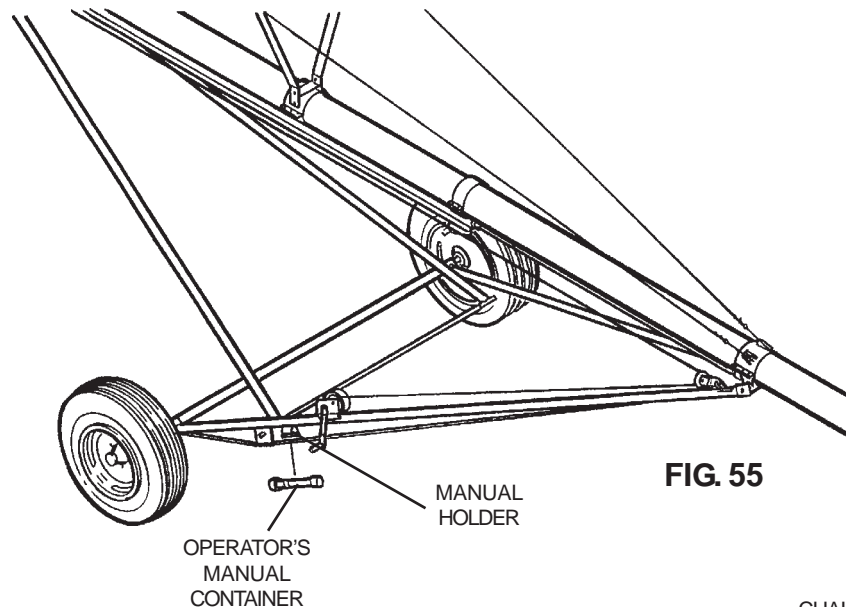

FIG. 55
Attach hitch to tube attachment anchor with one 1/2" x 3" long hex head capscrew (grade 5), lockwasher and nut. See Fig. 55.
2. Snap the container into holder located on the left radius rod arm. See Fig. 55.